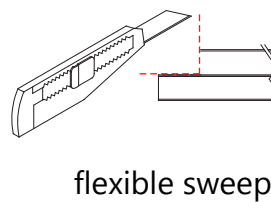

**Fig 11**
**11.** Drill holes into the aluminum profile of the **Door assembly (#02)** through the predrilled holes in the **Corner Profile (#10)** using an  $\text{Ø } 1/8''$  drill bit. Secure the Door assembly inside the **Corner Profile (#10)** using the **Pan Head Screws ST4.2×10 (#04)** with the raised white washers. Cover the exposed screw heads with the **Decorative Covers (#06)**. (**Fig 11**)